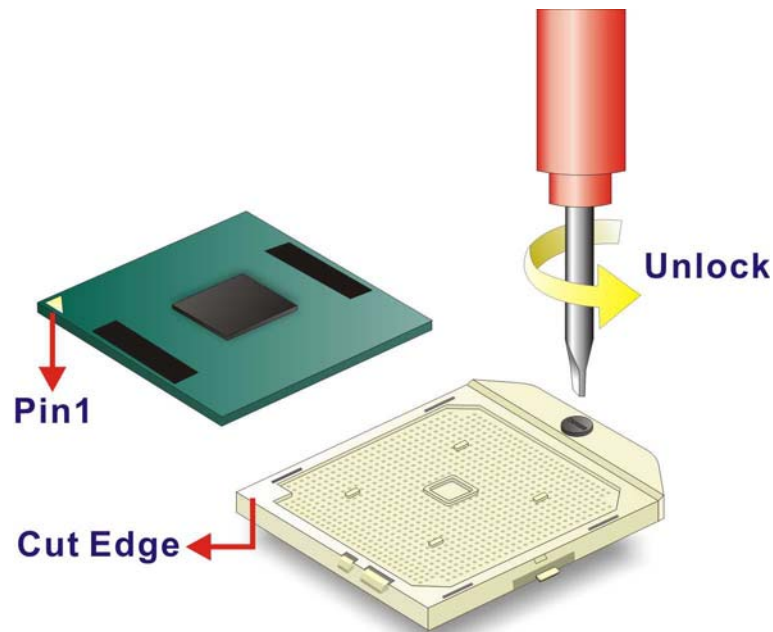

Figure 5-1: Make sure the CPU socket retention screw is unlocked
Step 1: **Unlock the CPU retention screw.** When shipped, the retention screw of the CPU socket should be in the unlocked position. If it is not in the unlocked position, use a screwdriver to unlock the screw. See **Figure 5-1**.
- Step 4:** **Correctly position the CPU.** Match the Pin 1 mark with the cut edge on the CPU socket. See **Figure 5-1**.